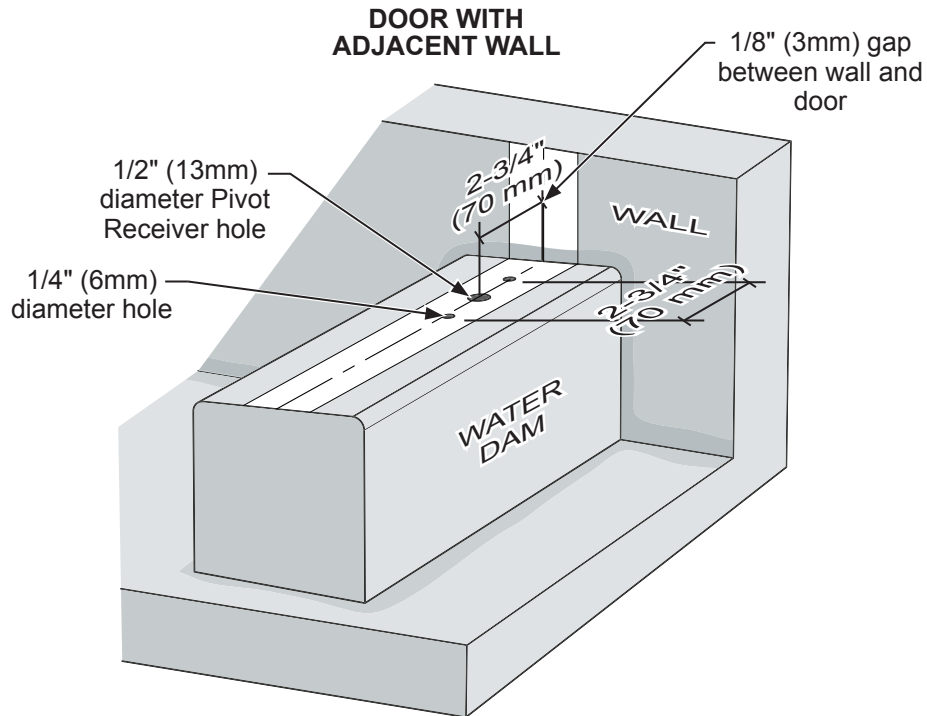
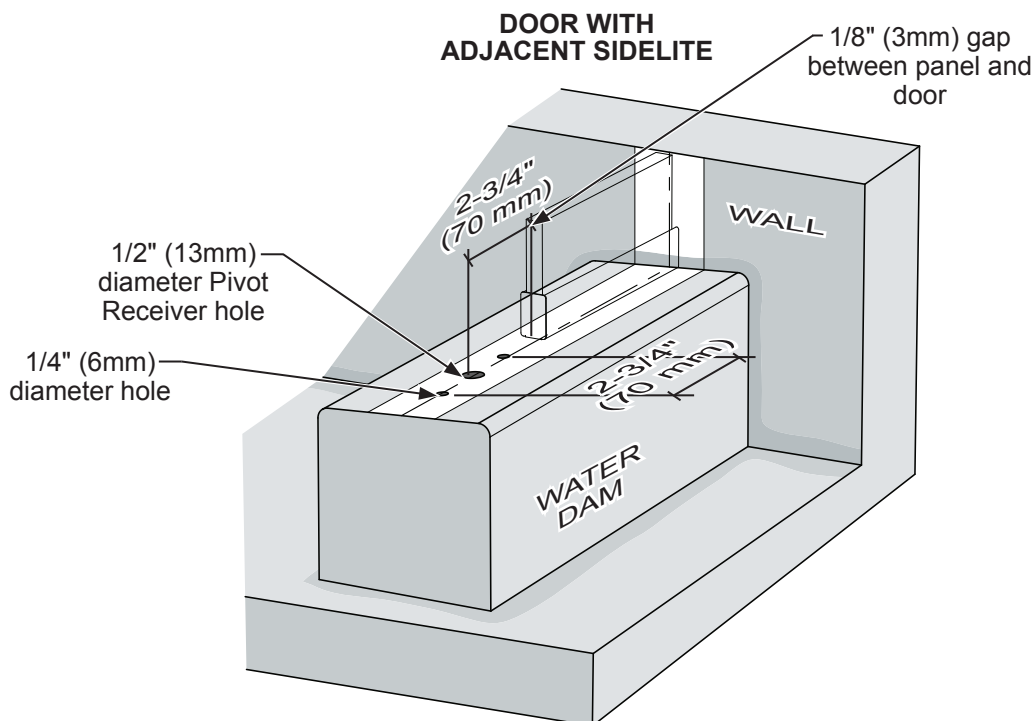
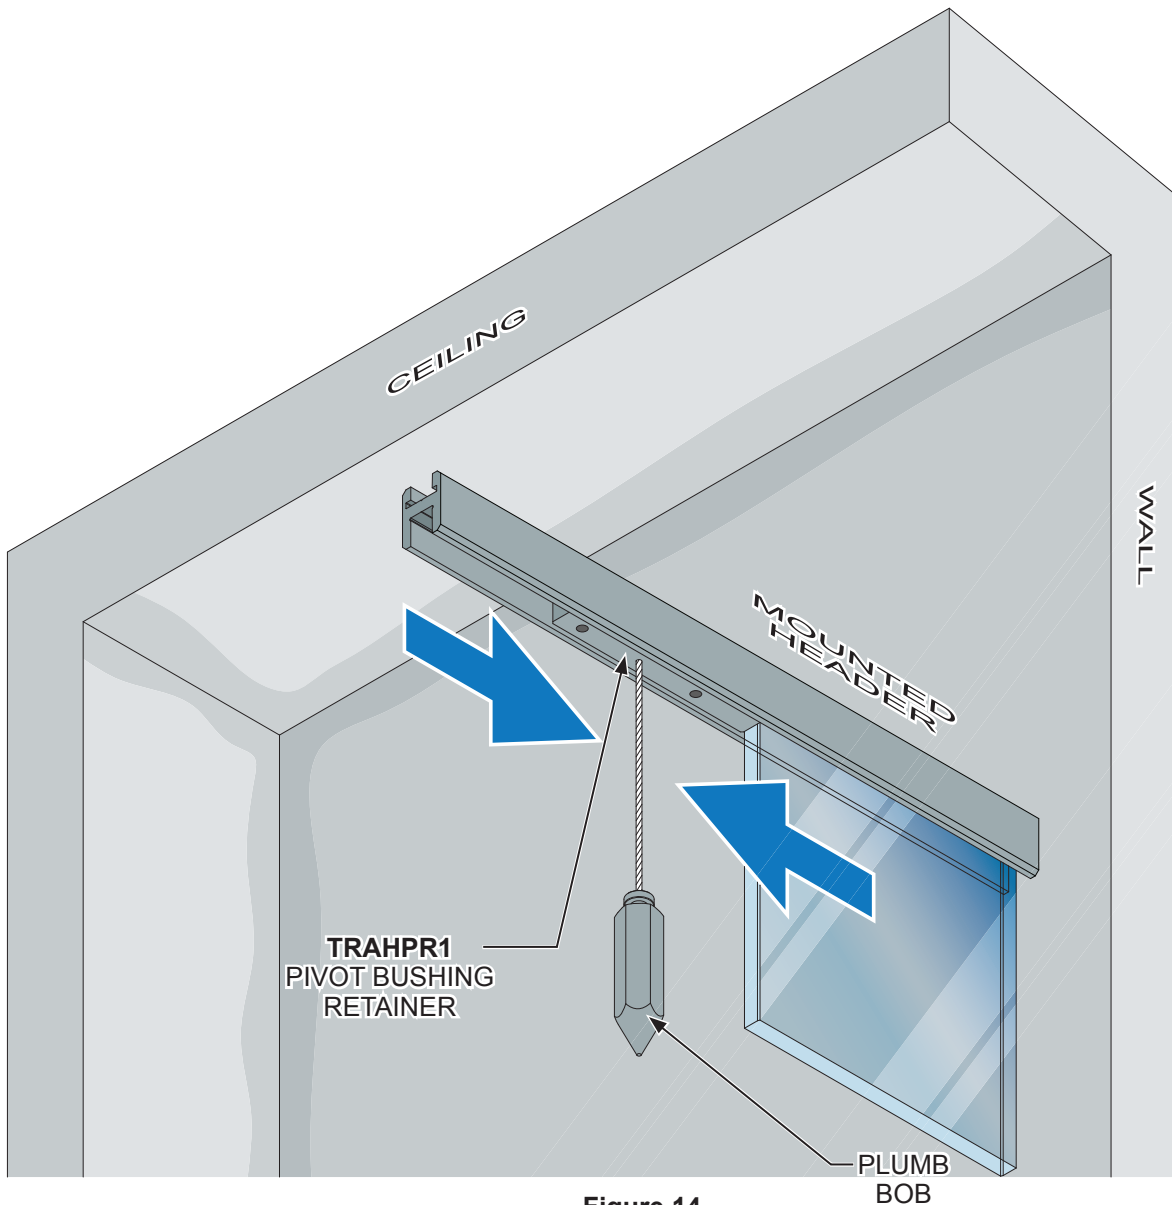

Figure 2
Figure 3
Figure 14
1. Determine, mark and drill the bottom pivot location. (Figure 2) or (Figure 3)
1. Use the "Plumb Bob" or "Laser Level" to align and determine the center location of the pivot at the header by sliding the **TRAHPR1** Pivot Bushing Retainer until the "Plumb Bob" aligns with the bottom pivot location. Mark as illustrated in **Figure 2** and **Figure 3** (See **Page 05**). Once the pivot location has been determined mark the hole locations on the header. (**Figure 14**)